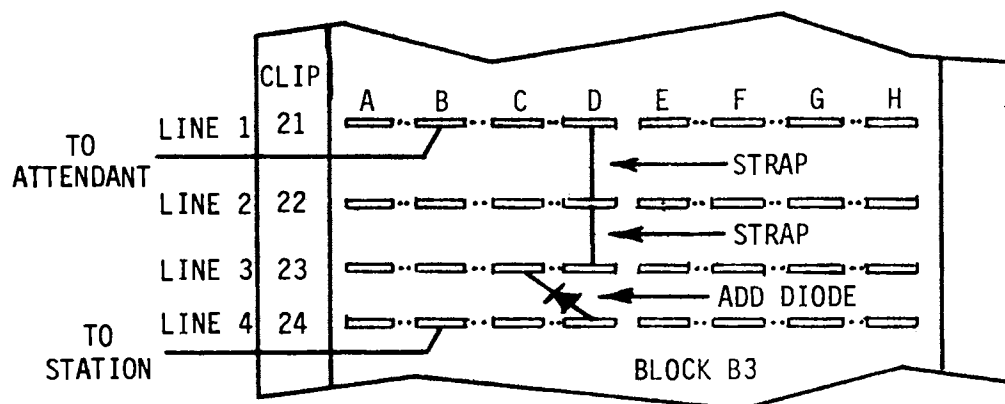

Figure 2 - CO Audible Signal Arrangement (example)
4.09 The RC signalling leads for the 1st eight lines are strapped together at the factory. With this wiring, the installer may connect the BZ1 lead of the attendants station to any of these lines and that station will be signalled by an incoming call on any of these lines. This may be restrapped by the installer to have different groups of lines signal different stations. Furthermore, because a DC ground is used to signal the station, diodes may be used to provide a variety of flexible signalling arrangements such as shown in Figure 2.
The example shown in Figure 2 may NOT be employed if BUZZERS are used at stations for signalling.
4.10 In the example shown in Figure 2, incoming calls on lines 1, 2, or 3 will signal only the attendant. Calls on line 4 will signal the attendant AND the individual station